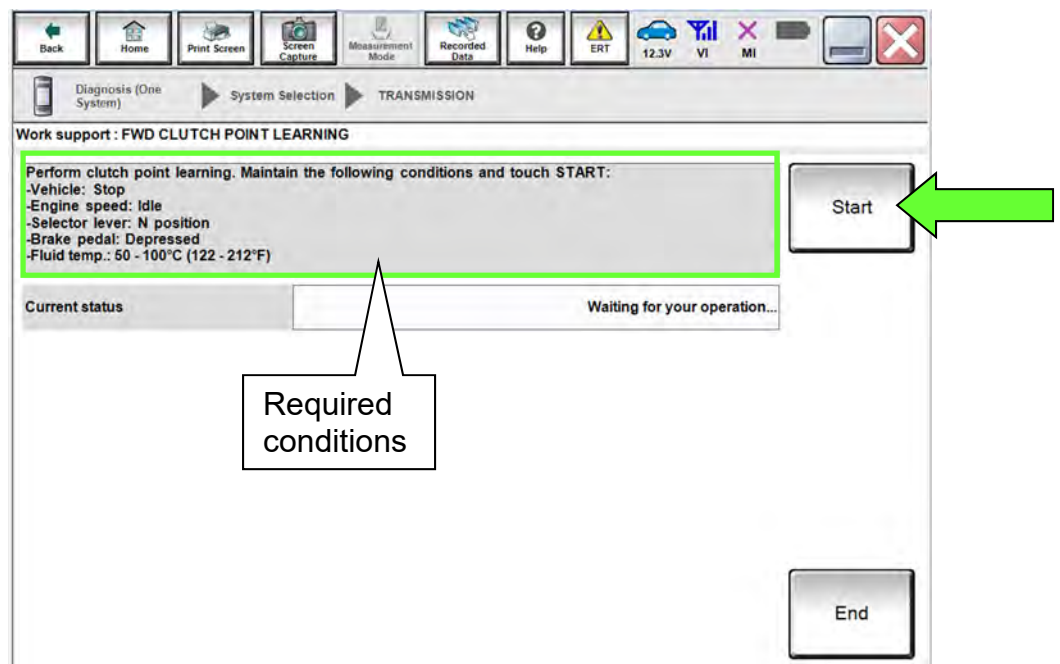

Figure 200
- Confirm that all of the required conditions indicated in Figure 200 are being met.
190. While maintaining all conditions shown in Figure 200 and the “Current status” indicates “EXECUTING”, shift the CVT into **D** and then wait until the “Current status” indicates “COMPLETED”.